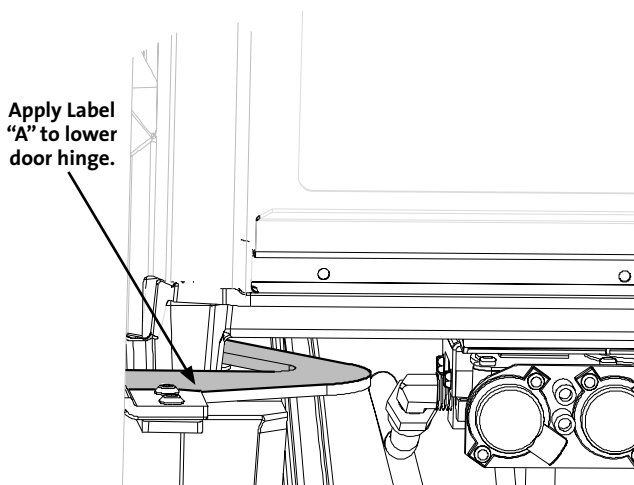

Figure 7.9.
- **Label A:** apply to the **Lower Door Hinge**. Fig. 7.9.